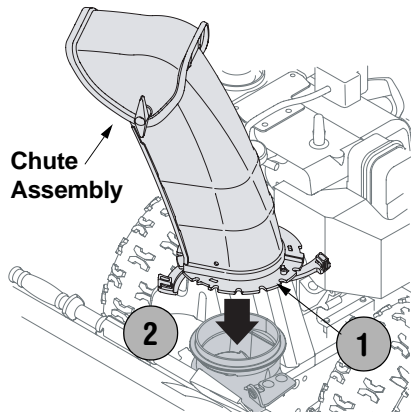

Figure 3
2. Place the chute assembly on the lip of the chute adapter. See Figure 3